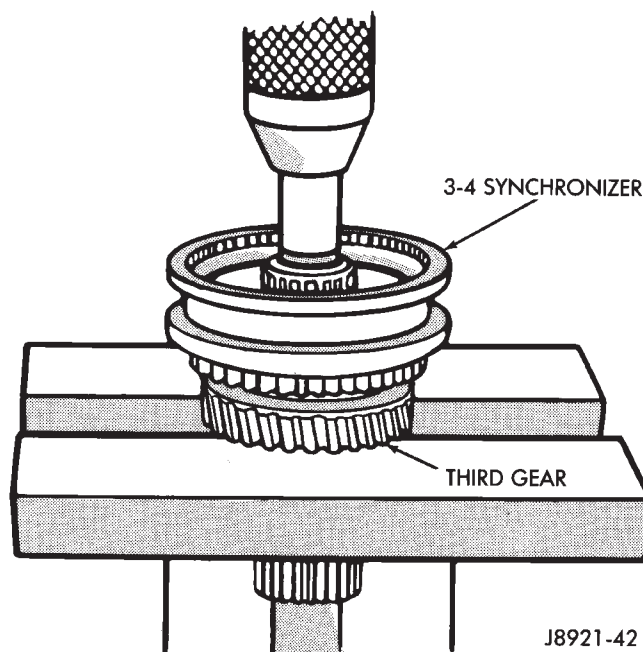

Fig. 34 Removing 3-4 Synchronizer And Third Gear
(21) Press 3-4 synchronizer and third gear off shaft (Fig. 34).
(22) Remove needle roller bearing from shaft or gear.